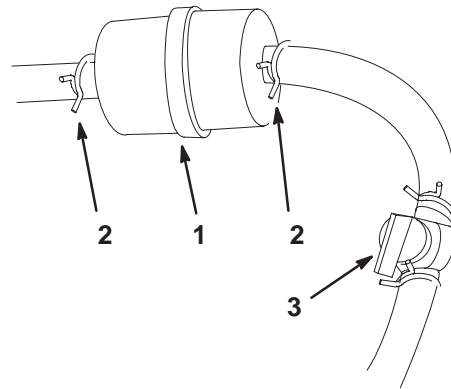

Figure 44
4. Close the fuel shut-off valve (Fig. 44).
5. Squeeze the ends of the hose clamps together and slide them away from the filter (Fig. 44).
9. Open fuel shut-off valve (Fig. 44).